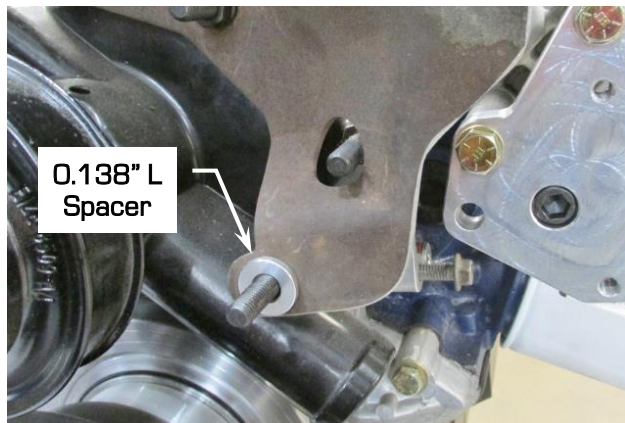
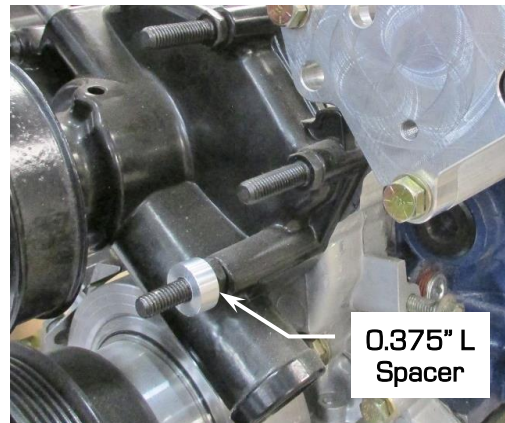

Figure 11a - PN: 092104DS
Figure 11b - PN: 092105DS
9. For A/C applications, place the provided 0.138" L aluminum spacer in front of the A/C bracket on the lower front cover stud (Figure 11a). For non-A/C applications, place the provided 0.375" L aluminum spacer on the lower front cover stud (Figure 11b).